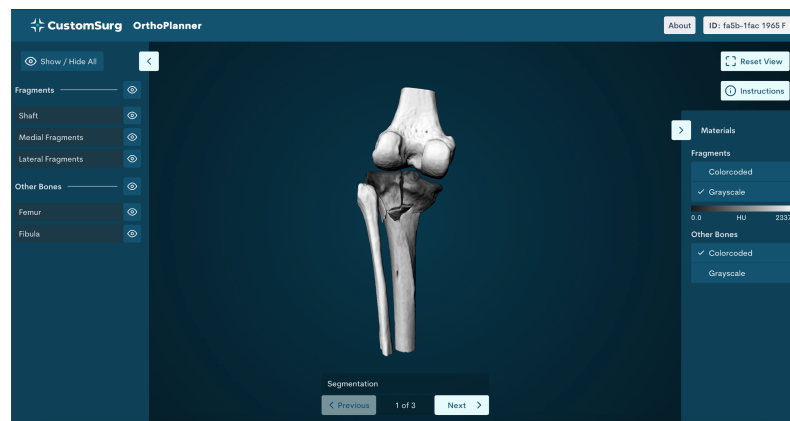

Figure 12 Segmentation View showing the Grayscale visualization.
- 15.7.6.2 To visualize the Grayscale of the bone fragments and the other bones shown as Hounsfield Units (HU) directly matching the CT scan, you can toggle between “Colorcoded” and “Grayscale” materials in the material panel (see Figure 12).